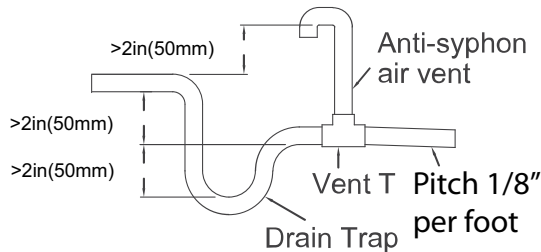

Fig. 24 — Drain Trap
- Figure 24 shows how to trap or plug all drains during vertical discharge.
- Figure 24 shows how to trap or plug all drains during right-hand discharge.